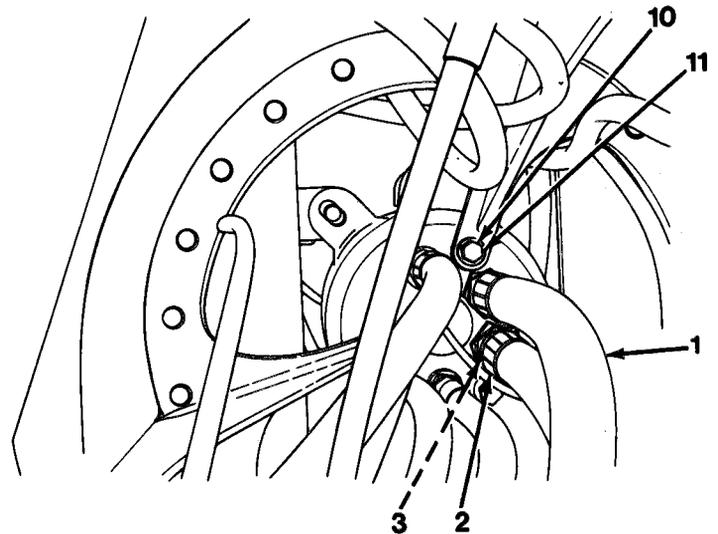

Figure 13-1
5. Disconnect six hoses (1, Figure 13-1) from bottom of manifold.
6. Remove six adapters (2) and O-rings (3) from manifold.
11. Remove three capscrews (10) and washers (11, Figure 13-1) from bottom of manifold.